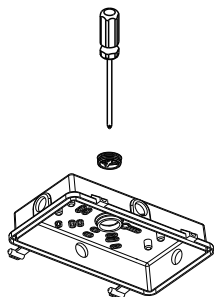

Figure 2-2
2. Loosen the 3/4 plug on the driver box cover using a flat screwdriver. Fig. 2-2